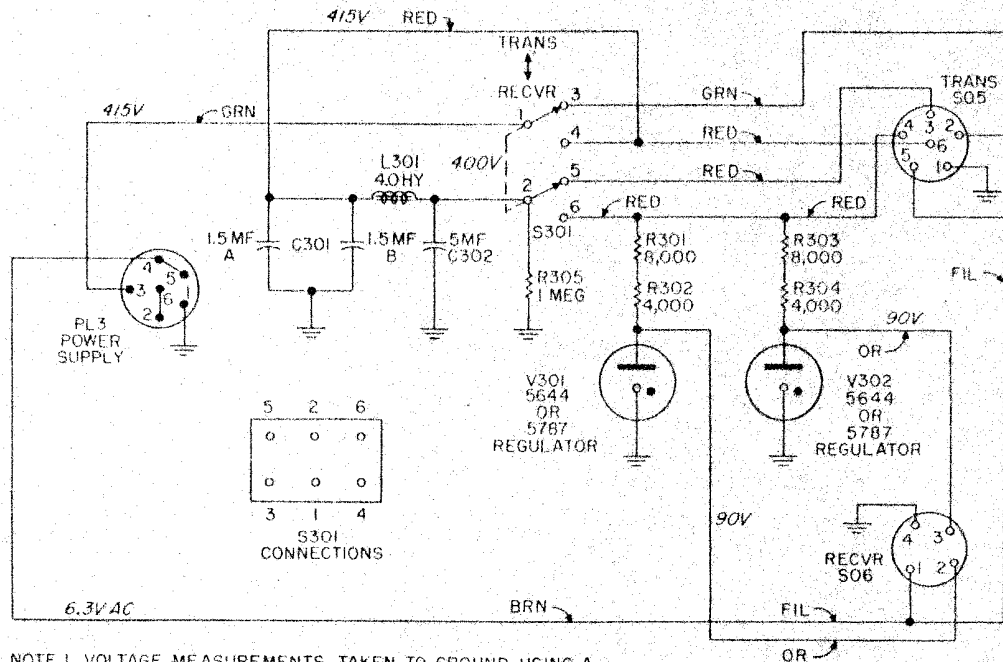

Figure 24. Filter-Accessory Unit RA-6, schematic diagram.
**36. CIRCUIT DESCRIPTION—** (See Schematic Diag. Fig. 24)